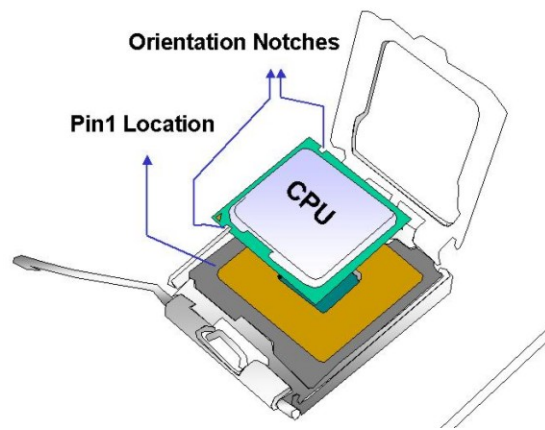

Figure 4-4: Insert the Socket LGA775 CPU
- Step 7:** Insert the CPU. Gently insert the CPU into the socket. If the CPU pins are properly aligned, the CPU should slide into the CPU socket smoothly. See **Figure 4-4**.